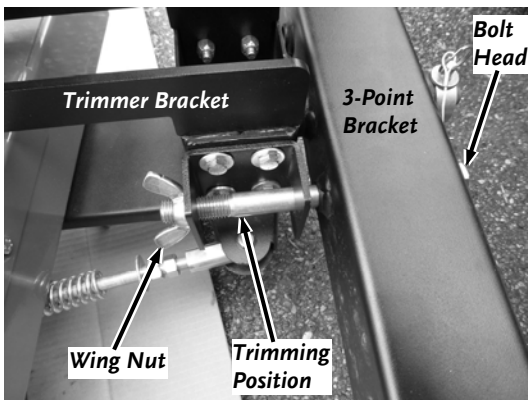

Figure 25
1. Install the Bolt into the right side "holes" location through the 3-Point Bracket and Trimmer Bracket (**Figure 25**).